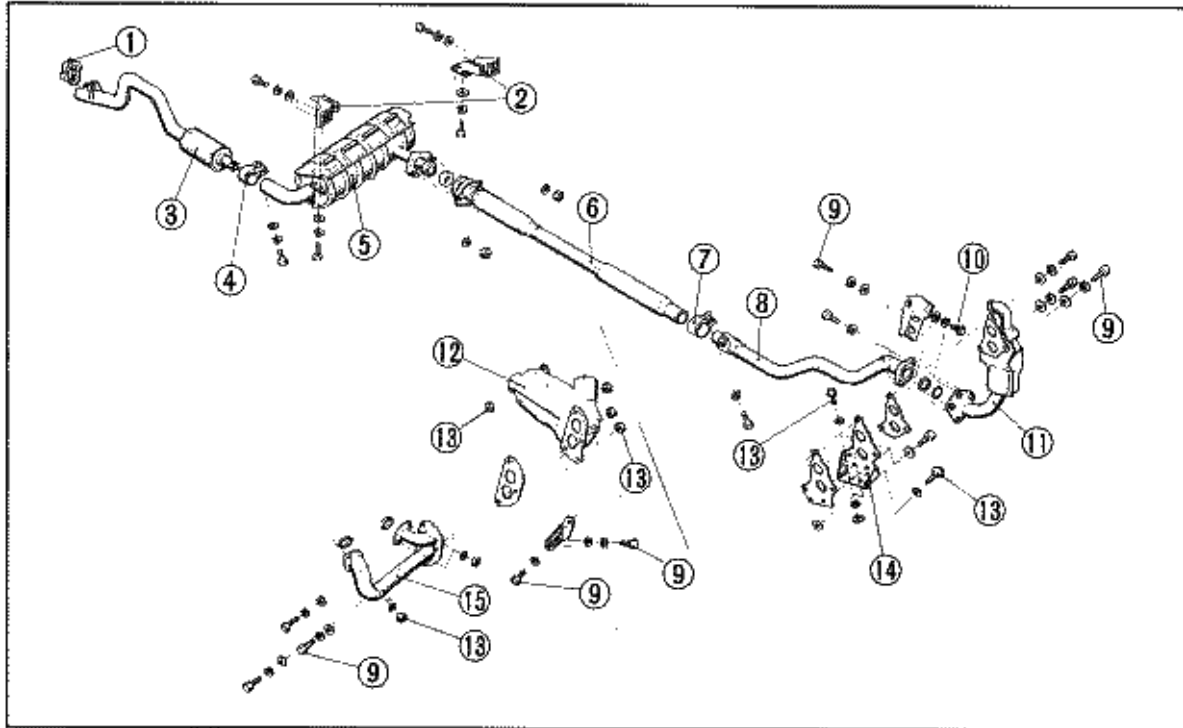

Fig. 14-1
4. Retighten the exhaust manifold, joint pipe A and heat exchanger to the specified torque (Fig. 14-1).